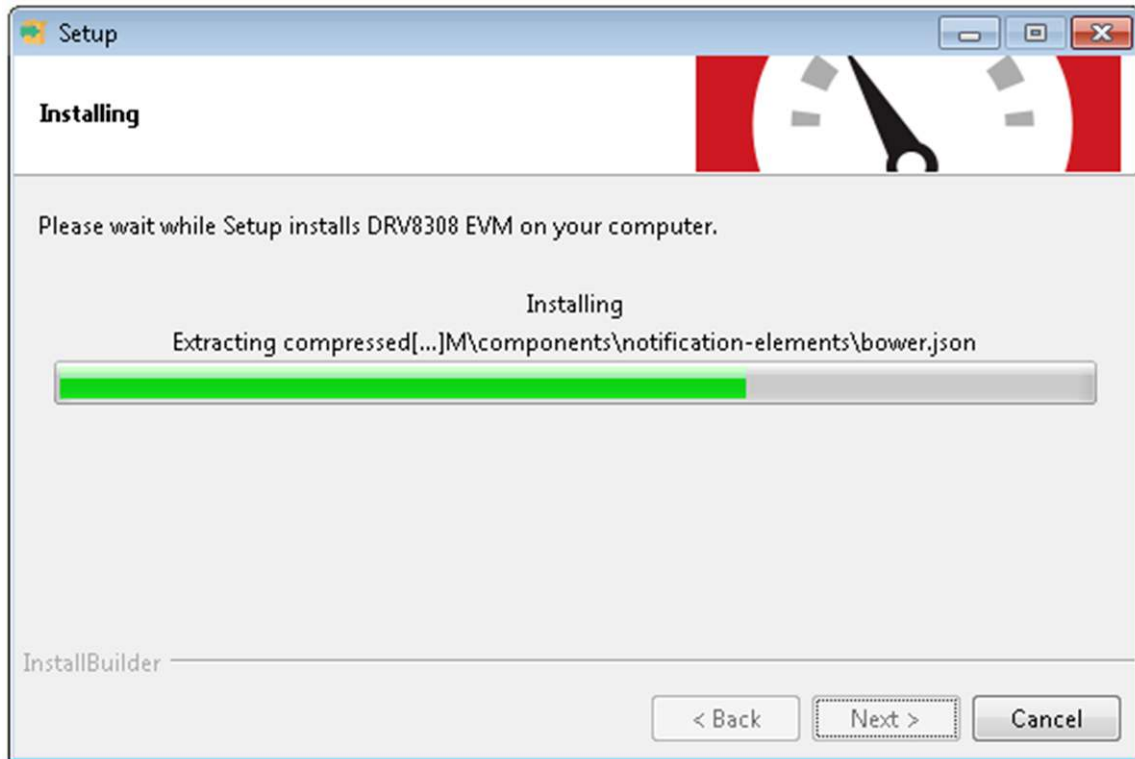

Figure 14. Installation in Progress
Step 9. After the extraction of GUI Composer component, the installer continues with the setup installation as shown in Figure 14.